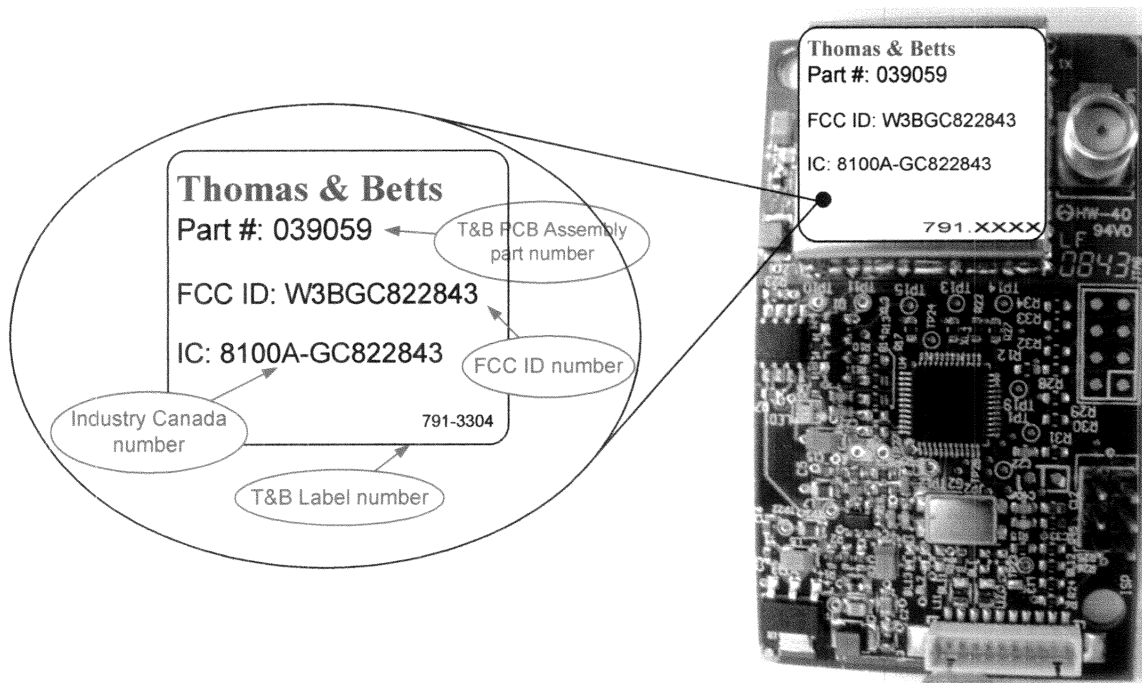

Figure 3
6. The modular transmitter has a permanently affixed label with the FCC ID number, IC ID number and the T&B part number. For example see Figure 3.